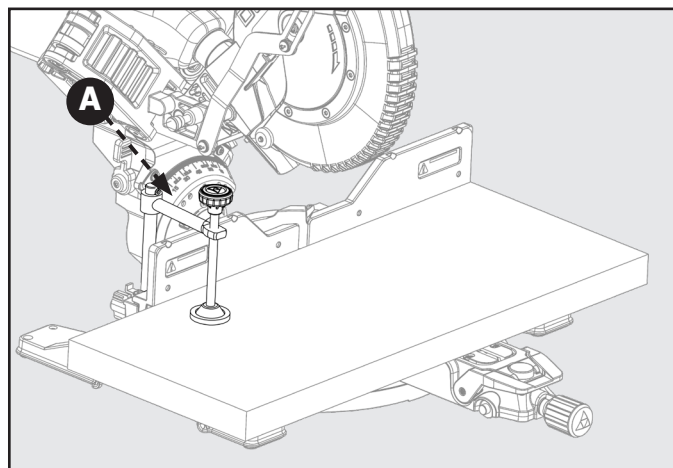

Figure 16
When cutting wide work pieces, such as 2 in. X 12 in., clamp the workpiece to the work table using a work clamp (A) as shown in Figure 16.